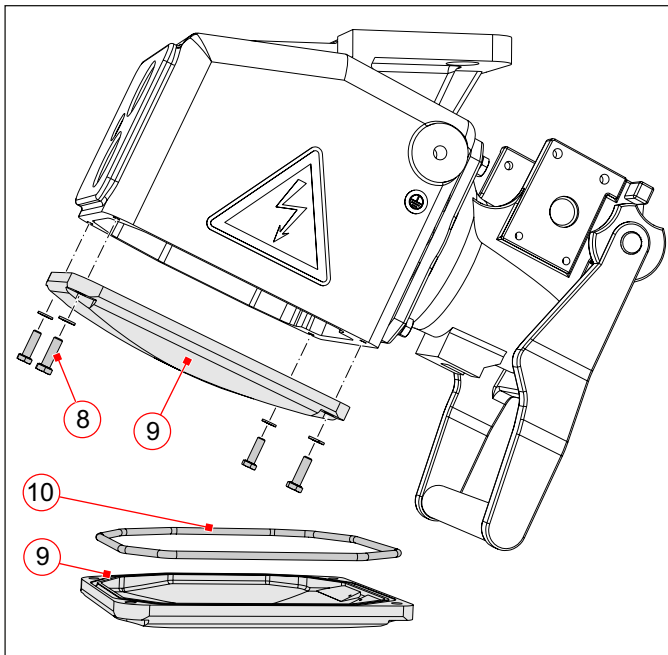

Fig. 49: Replace the seal (10) for the lower shell cover
- ▶ Check the condensate drainage hole (1).
- ▶ If necessary remove the lower shell cover and clean the condensate drainage hole. See section "Replace the seal for the lower shell cover (Fig. 49)" on page 39.
Replace the seal for the lower shell cover (Fig. 49)
- ▶ Check the seal of the lower shell cover for the receptacle. If there are damages, replace the seal (for this, see section **"Replace the seal for the lower shell cover (Fig. 49)"** on page 39).